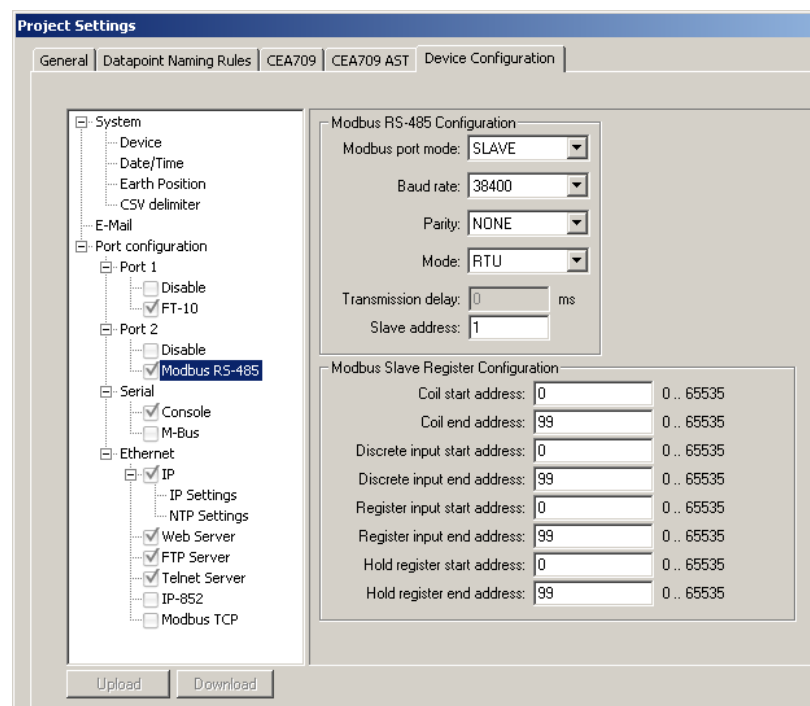

Figure 138: Project settings for Modbus.
2. In the **Device Config** tab enable the Modbus check boxes on the desired ports as shown in Figure 138. Setting the check box enables Modbus on that port. Edit the Modbus communication settings.